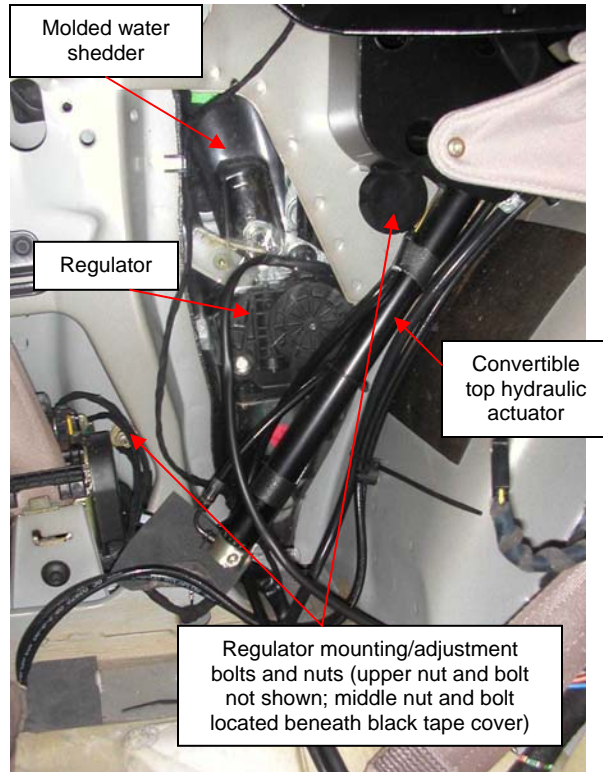

Fig. 12 Regulator as mounted
8. Note the location of (a) the window regulator, visible through the opening in the body and the clear, molded-plastic water shedder (see Fig. 12), and (b) the three adjusters/nuts. The lower nut/washer is held in place by silicone seal to ease installation (a big help). Remove the black, circular tape cover to gain access to the middle adjuster/nut. The top adjuster/nut is accessible as is. Note that the convertible top hydraulic actuator sits on a boss (not visible in photo) at about the midpoint of the actuator. It is not held in place by a fastener. Be sure to reposition it on the boss during reassembly.
14. Remove the upper and middle nuts holding the regulator in place and undo the lower nut (it will remain in place because the attached washer is held to the body by silicone sealer) (Sec. 86.25.11, Steps 12 and 13) (see Fig. 12 above). Route the feed link and multiplug connector through the water shedder. Once loose, push the regulator outward to free the adjustment bolts from their holes. As I inferred from the Jag instructions re removal of the top, I could not remove the window/regulator due to interference between the regulator motor and the convertible top bracket (see Fig. 19).